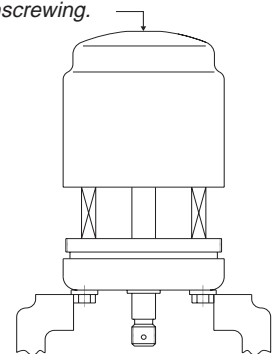

Figure 2
- 1 Insert four bolts into bonnet and clamp into vise as illustrated in Figure 2
To prevent injury, apply constant hand pressure and unscrew completely. Spring force will push the cylinder up when threads disengage. See Figure 2.